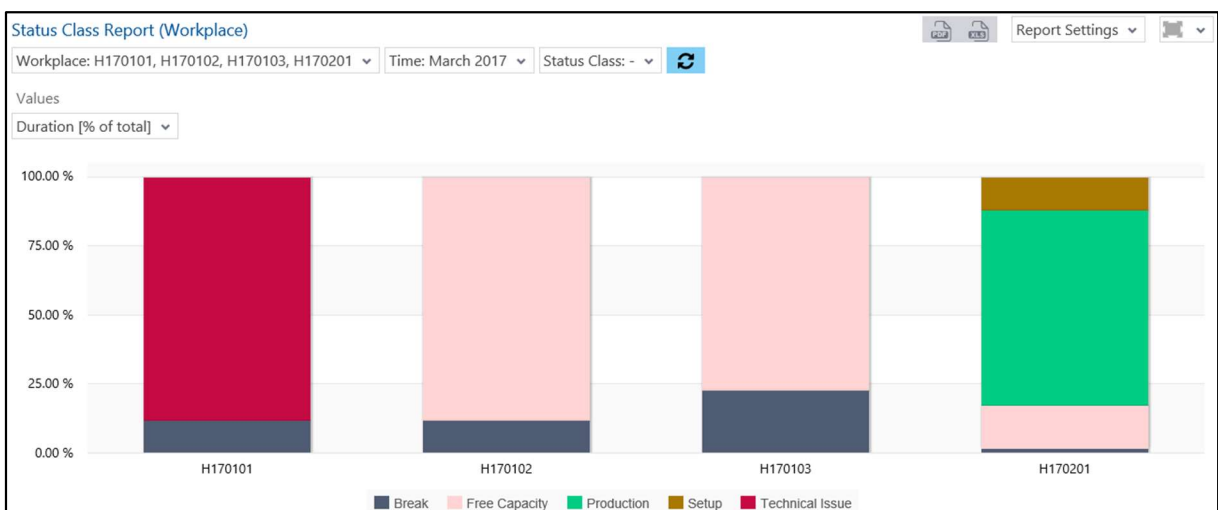

Fig. 51: Operating State Class Report (Workplace) as a column chart
- Operating State Class Report (Workplace) as a column chart (Fig. 51):